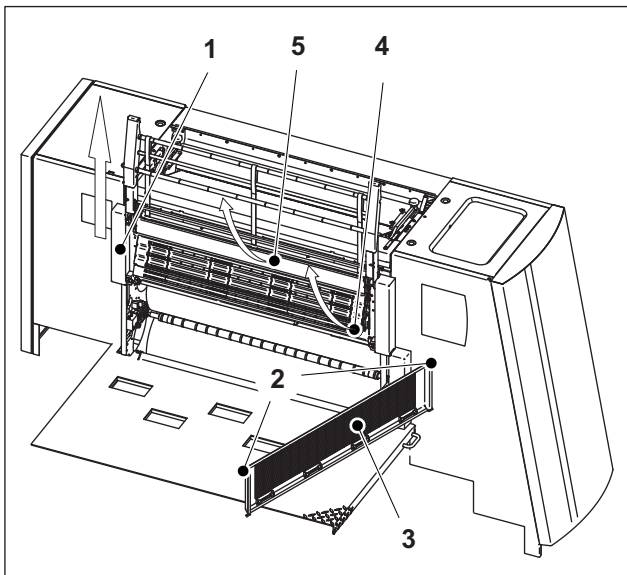

Fig. 76 Setting the cleaning function
2. Set the holding device (Fig. 76/1) upward.
3. Release the two screw fasteners (Fig. 76/2) on the service cover and remove the service cover (Fig. 76/3).
4. Open the delivery-side cylinder guard (Fig. 76/1). The motor of the tape driving roller starts rotating for approximately 2 min.
5. Raise the cover (Fig. 76/5).
6. **Only to be done during maintenance activities on the guide rollers, guide rails and the "Rear edge of plate" sensor!** Swing up the guiding device (Fig. 76/4). Hold the guiding device **at the sides only**. You can release the guiding device afterwards. Its latching mechanism holds it at this position.
Accessing the maintenance point	See "Setting the cleaning function" (Fig. 76). Note: Do not swing out the guiding device!
Accessing the maintenance point	See "Setting the cleaning function" (Fig. 76).